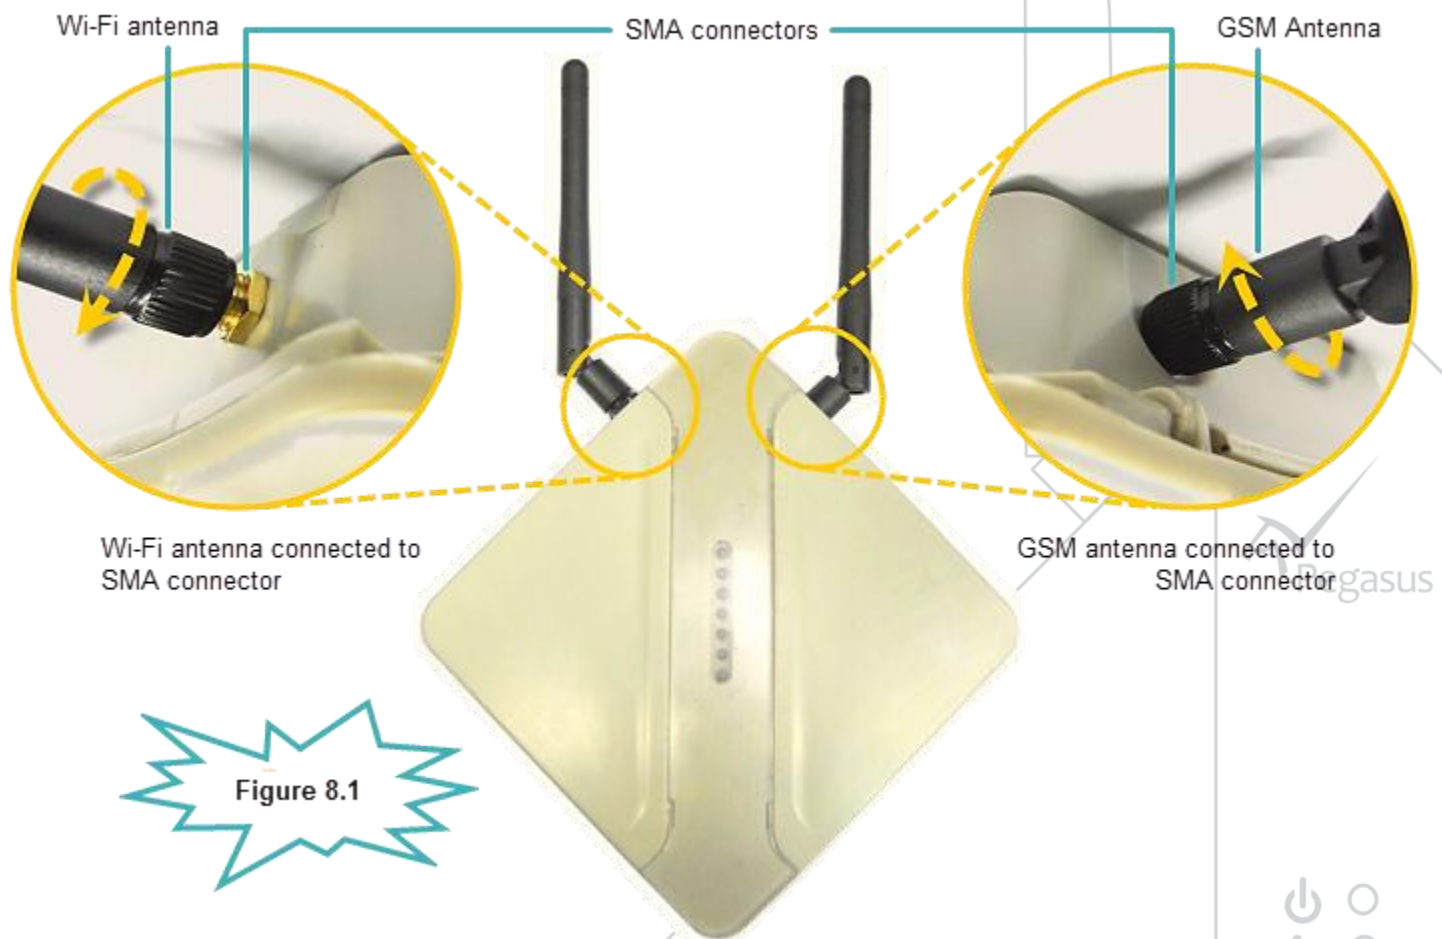

Figure 8.1
1. Fix the Wi-Fi and GSM antennas on the respective SMA connectors using a screw type coupling mechanism in the clockwise direction as shown in Figure 8.1.